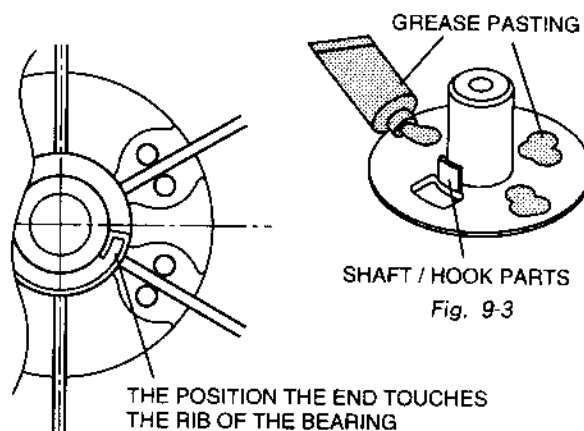

Fig. 9-4
- 2 : Adjust the position of the inner end of the spring, which is set in the reel. (Fig. 9-4)